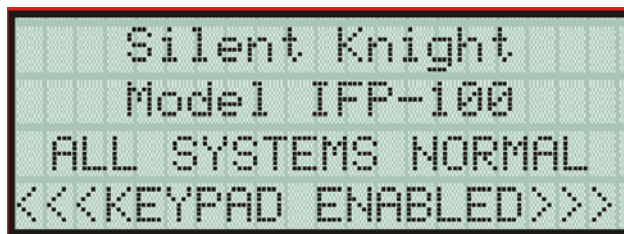

Figure 6-7 Keypad Enabled Screen
1. Press ENTER key to bring up the Main Menu (see Figure 6-7).